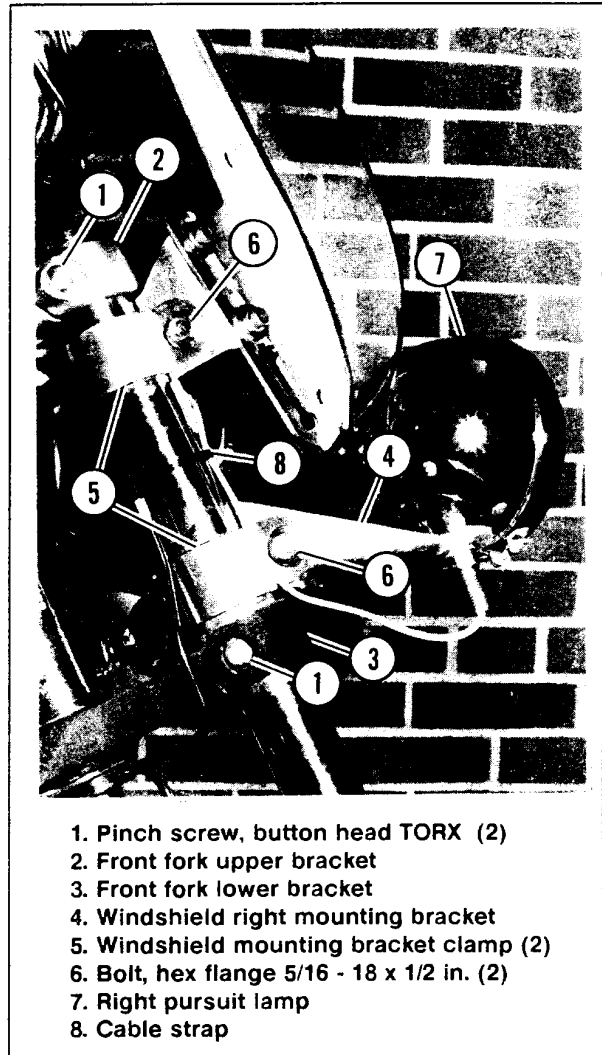
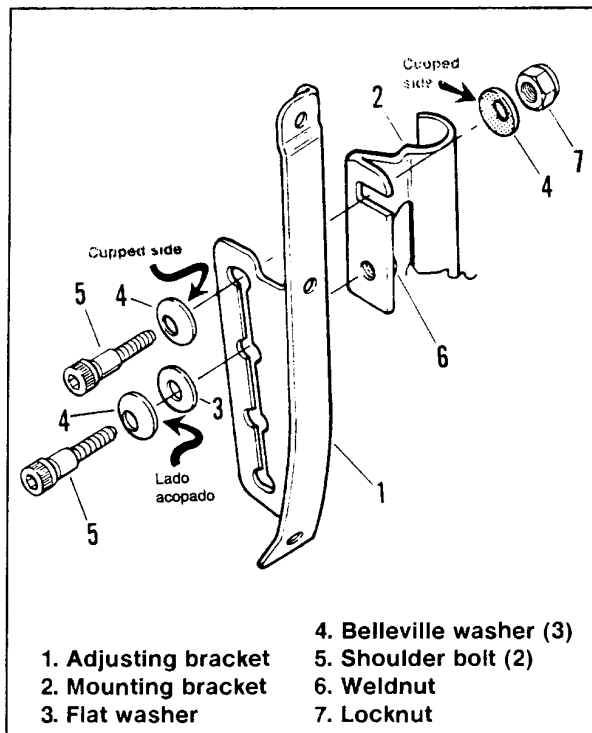

Figure 3. FXRP-Windshield -- New Windshield Mounting Hardware and Front Fork Pinch Screws -- Right Side
Figure 4. FXRP-Windshield -- New Windshield Mounting Hardware -- Right Side
7. Loosen original hex socket head pinch screw (5) on right side of front fork lower bracket (8) only enough to allow you to pivot the original windshield right mounting bracket (2) forward somewhat. Pivot the mounting bracket (2) forward to expose open pinch screw hole in right side of front fork upper bracket (7).
8. See Figure 3. Install new 1-1/2 in. long button head TORX screw (1) from kit into pinch screw hole in right side of front fork upper bracket (2). Verify that proper right front fork tube extension exists above front fork upper bracket (must be identical to left front fork tube extension). Tighten new pinch screw to 30 - 35 ft-lbs torque.
10. See Figure 3. Install new 1-1/2 in. long button head TORX screw (1) from kit into pinch screw hole in right side of front fork lower bracket (3). Tighten new pinch screw to 30 - 35 ft-lbs torque.
11. Loosely install new windshield right mounting bracket (4) from kit to right front fork tube using two new windshield mounting bracket clamps (5) and 5/16 - 18 x 1/2 in. hex flange bolts (6) from kit.
12. See Figure 4. Position original windshield right adjusting bracket (1) (part of windshield assembly) over outboard side of new windshield right mounting bracket (2) (attached to right front fork tube).
13. Insert a shoulder bolt (5) from kit through one Belleville washer (4) from kit (with concave (cupped) side of washer facing away from bolt head), through flat washer (3) from kit, through slot of adjusting bracket (1), and into threaded weldnut (6) of mounting bracket (2). Do not final tighten at this time.
14. Insert a shoulder bolt (5) from kit through one Belleville washer (4) from kit (with concave (cupped) side of washer facing away from bolt head), through slot of adjusting bracket (1), and through slotted hole in mounting bracket (2). Install another Belleville washer (4) from kit (with concave (cupped) side of washer facing windshield mounting bracket) and a locknut (7) from kit over end of bolt. Do not final tighten at this time.
15. See Figure 3. Verify that windshield is properly positioned on motorcycle. Tighten bolts (6) to 12 ft-lbs torque.
See Figure 4. Before tightening windshield mounting shoulder bolts (5), make sure of the following:
- The Belleville washer (4), the flat washer (3), and the adjusting bracket (1) are positioned over the unthreaded, larger O.D. shaft section of the lower shoulder bolt (5); and the shoulder surface of the lower shoulder bolt (5) contacts the weldnut (6) of the mounting bracket (2).
- The first Belleville washer (4), the adjusting bracket (1), the mounting bracket (2), and the second Belleville washer (4) are positioned over the unthreaded, larger O.D. shaft section of the upper shoulder bolt (5); and the shoulder surface of the upper shoulder bolt (5) contacts the locknut (7).
16. See Figure 4. Tighten both shoulder bolts (5) to 8 - 10 ft-lbs torque.
17. See Figure 3. Install right pursuit lamp (7) onto new windshield right mounting bracket (4) using original fasteners. Aim pursuit lamp directly forward, and tighten fasteners securely.
18. Route pursuit lamp wiring as shown in Figure 3. Install wire terminal(s) in appropriate pursuit lamp pin connector(s). Secure wire to right front fork tube using a cable strap (8).